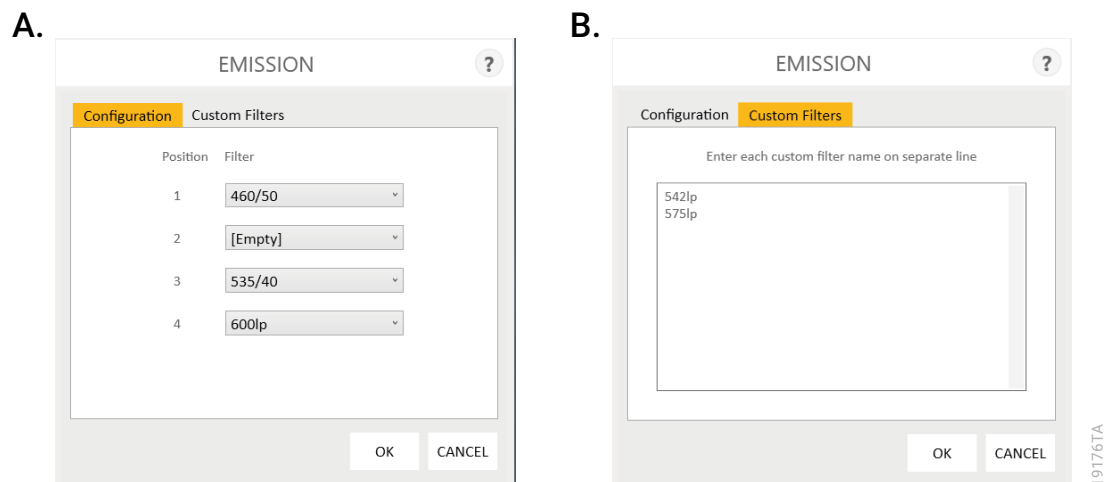

Figure 19. Panel A. Emission filter 'Configuration' tab. **Panel B.** Emission filter 'Custom Filters' tab.
Emission Filter	Displays the current emission filter configuration (Figure 19) and moves the filter slide to a safe position for removal to change emission filters. Up to four filters can be installed on the GloMax® Galaxy Imager. Filters are manually assigned in the software by selecting the filter at each position from a drop-down list. Filters may be added to the drop-down list using the 'Custom Filters' tab. The excitation filter slide accepts standard 25mm filters, no more than 5mm thick, installed in an Emission Filter Holder/Retainer (Cat.# GM4017).
8. Update the emission configuration by selecting the filter installed at each position from the drop-down menu (Figure 19, Panel A). If your filter is not listed, enter it on the 'Custom Filters' tab, which will add it to the drop-down list (Figure 19, Panel B).